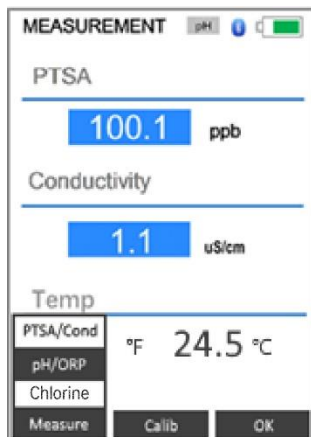
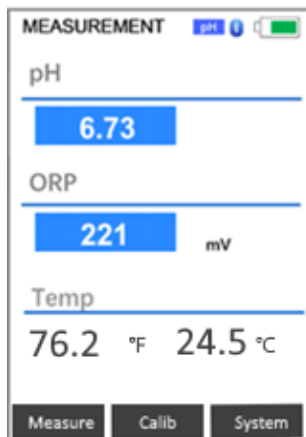

Figure 6. Select pH/ORP measurement
Figure 7. Display pH and ORP values
3. Press **Measure** (the < key). A selection menu will be shown as in Figure 6. Press **Measure** again to highlight **pH/ORP**. Press **OK** to start pH and ORP measurement. The pH and ORP values on the SP-710 will be updated every two seconds. The values will be displayed in white with a **blue background** if a stable value is reached (Figure 7).